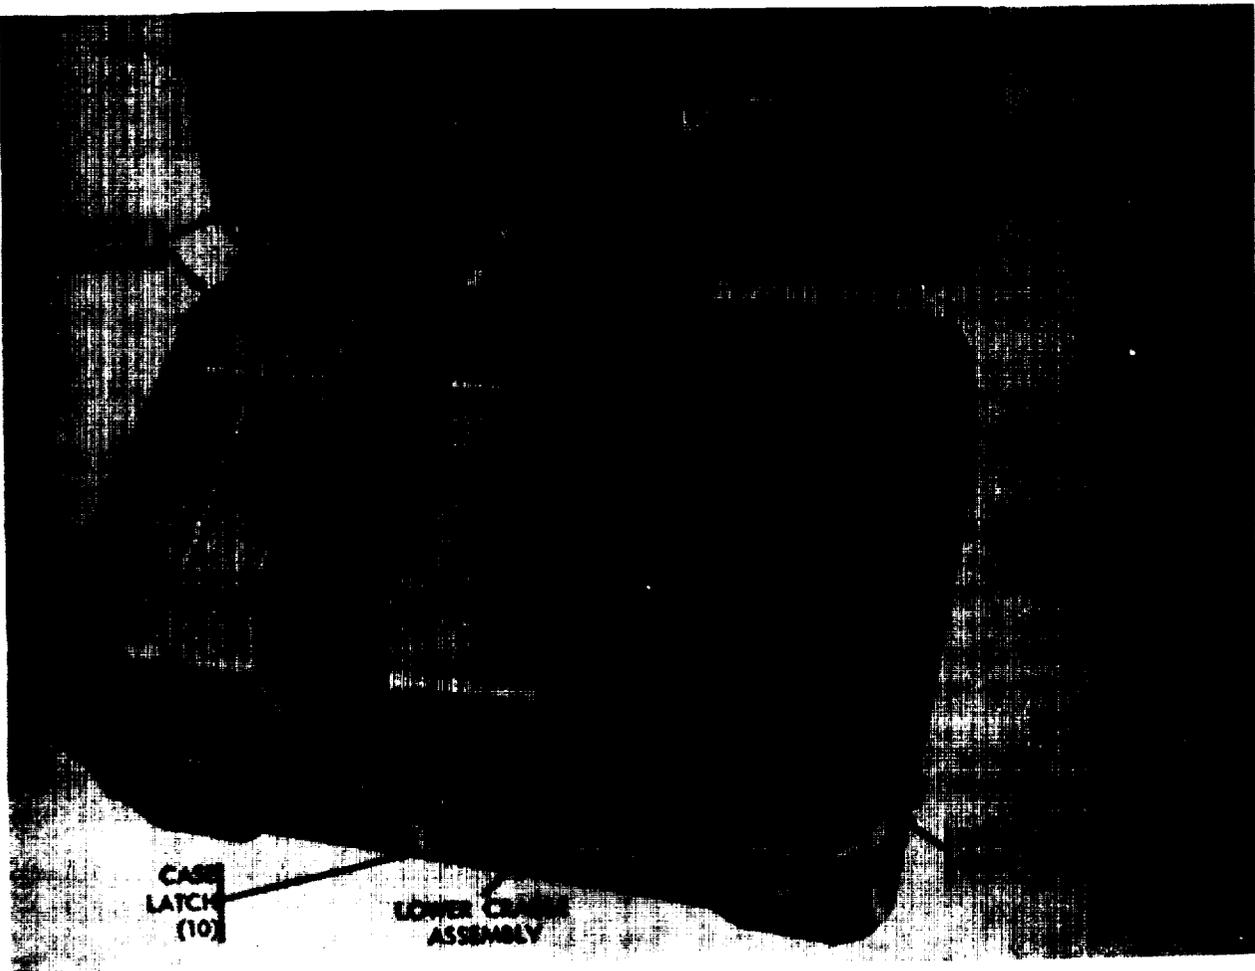

Figure 2-2. Radar chronograph with mount in reusable container.
(3) Remove security seals from the case and container latches. Release latches and remove top sections.
(4) Loosen straps holding upper cradle assembly to lower cradle assembly (fig. 2-2), in reusable container, remove upper cradle assembly, and lay in top section.